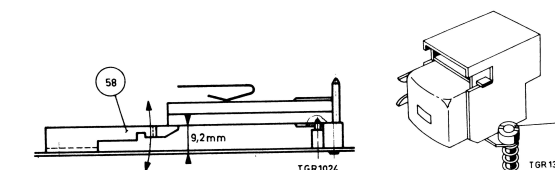

Fig. 12
Adjusting the rearmost cassette support (bracket, item 58), see Fig. 12.